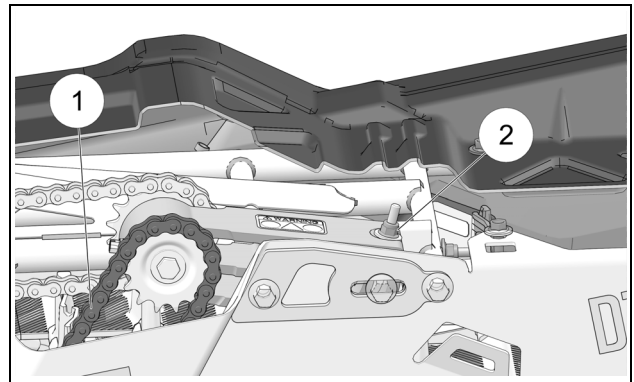

Figure 5
- Loosen the rod end's jam nut (1). Adjust the length of rod end by turning the anti-rotation arm (2) using a 30 mm wrench. See Figure 5.
- Adjust next the tension in the secondary drive chain (1) by turning the vertical adjustment nut (2) on the chain tensioner. See Figure 5.